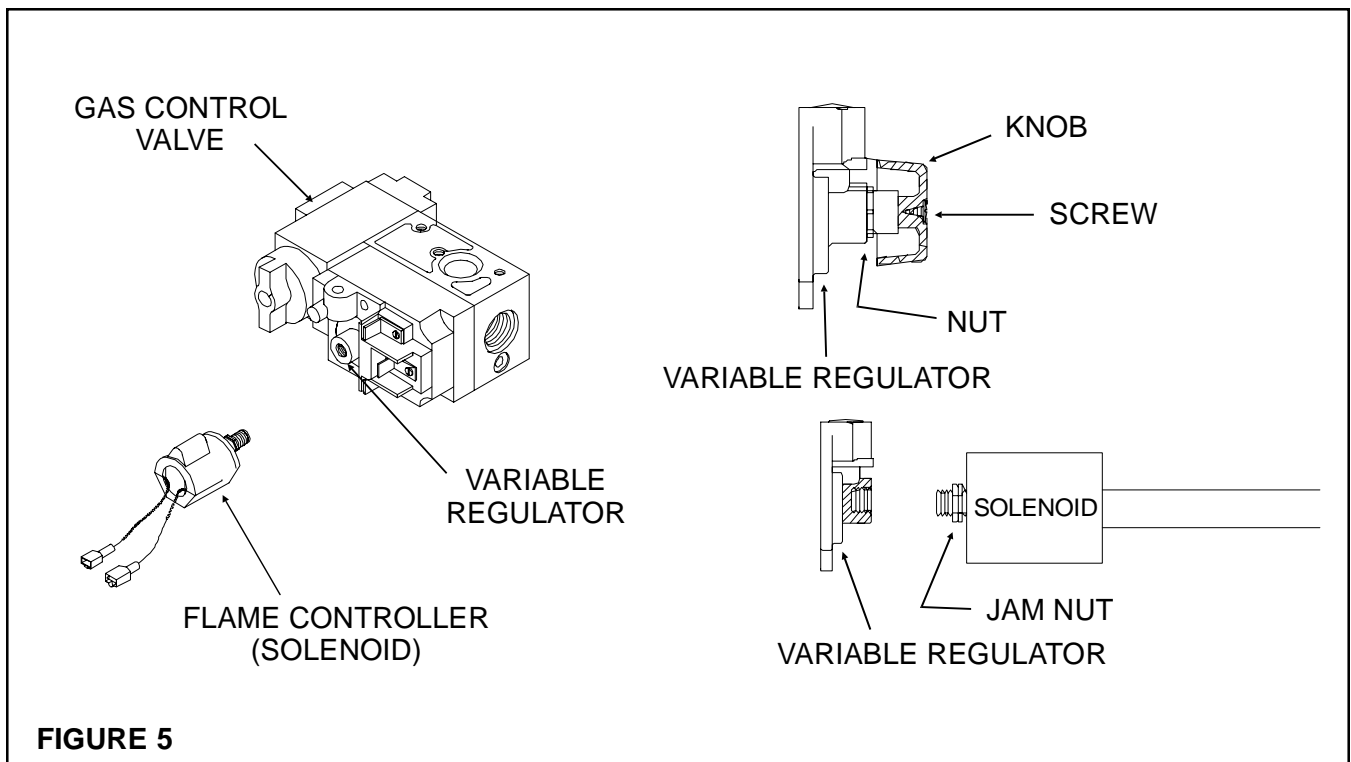

FIGURE 5
- Carefully remove flame adjustment control and discard the screw and manual variable regulator knob from the gas valve. Unscrew and discard the nut from the regulator. (See Figure 5)